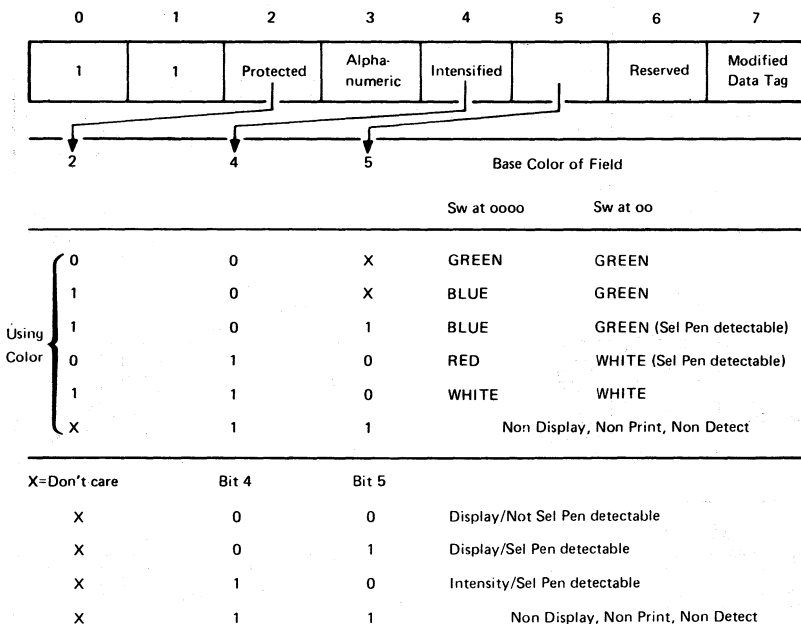

Figure 6-17. Base Field Attribute Byte
5. Use the attribute bit definition figure and the attributes character tables (Figures 6-17 and 6-18) to determine if the attributes are being correctly interpreted by the hardware.